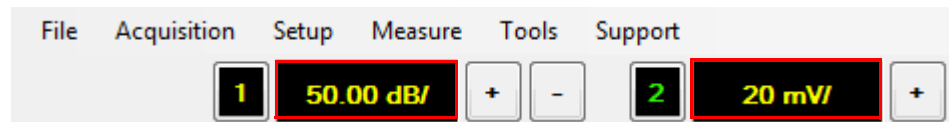

Figure 2-7 Vertical scale area on the graphical interface
- 1 Select the vertical scale area for the desired channel on the graphical interface as shown in Figure 2-7.
- 1 Select the vertical scale area of the desired channel at the top of the graphical interface to access the Channel Setup dialog as shown in Figure 2-7.